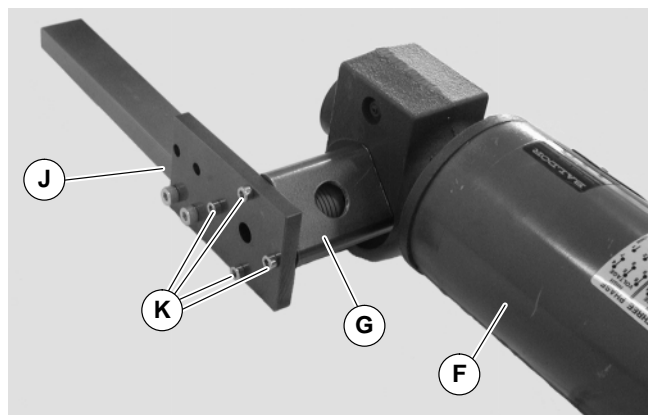

Figure 16
6. Attach guard tube (G of Figure 16) and gearmotor support assembly (J) to gearmotor assembly (F) with screws (K). Tighten screws (K) to 50 in-lb (5.6 Nm).